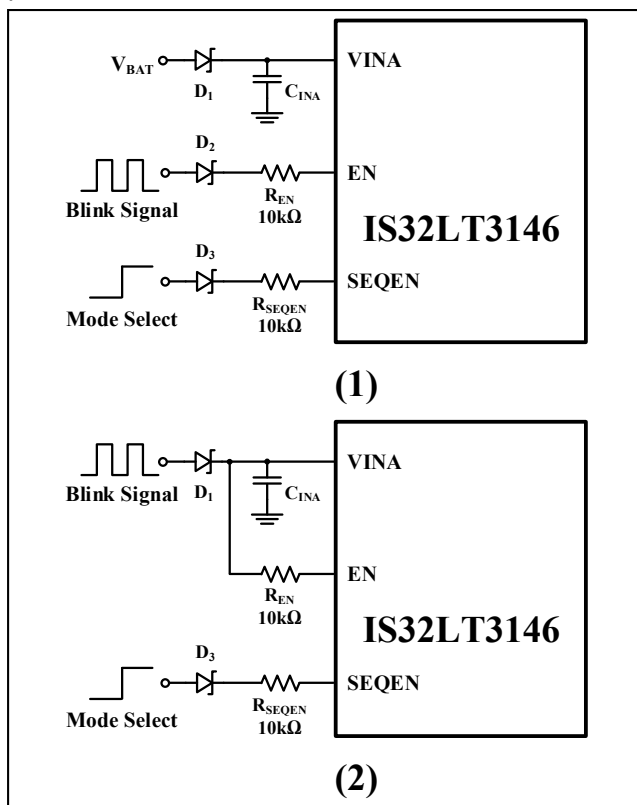

Figure 39 BCM Blink Signal Connection
In the turn light applications, there is a BCM (Body Control Module) ON/OFF blink signal which can be applied to the EN pin of IS32LT3146 via a 10kΩ resistor and an independent static power supply rail can be used to supply the VINA pin of IS32LT3146, as shown in (1) of Figure 39. Unfortunately, in most turn light applications, there is no independent static power supply rail but only the BCM ON/OFF blink signal which plays the power supply role as well. If so, the BCM ON/OFF blink signal can be directly applied to the VINA pin with the EN pin tied to the VINA pin via a 10kΩ resistor, as shown in (2) of Figure 39. Where, the D1, D2 and D3 are reverse polarity protection diodes.